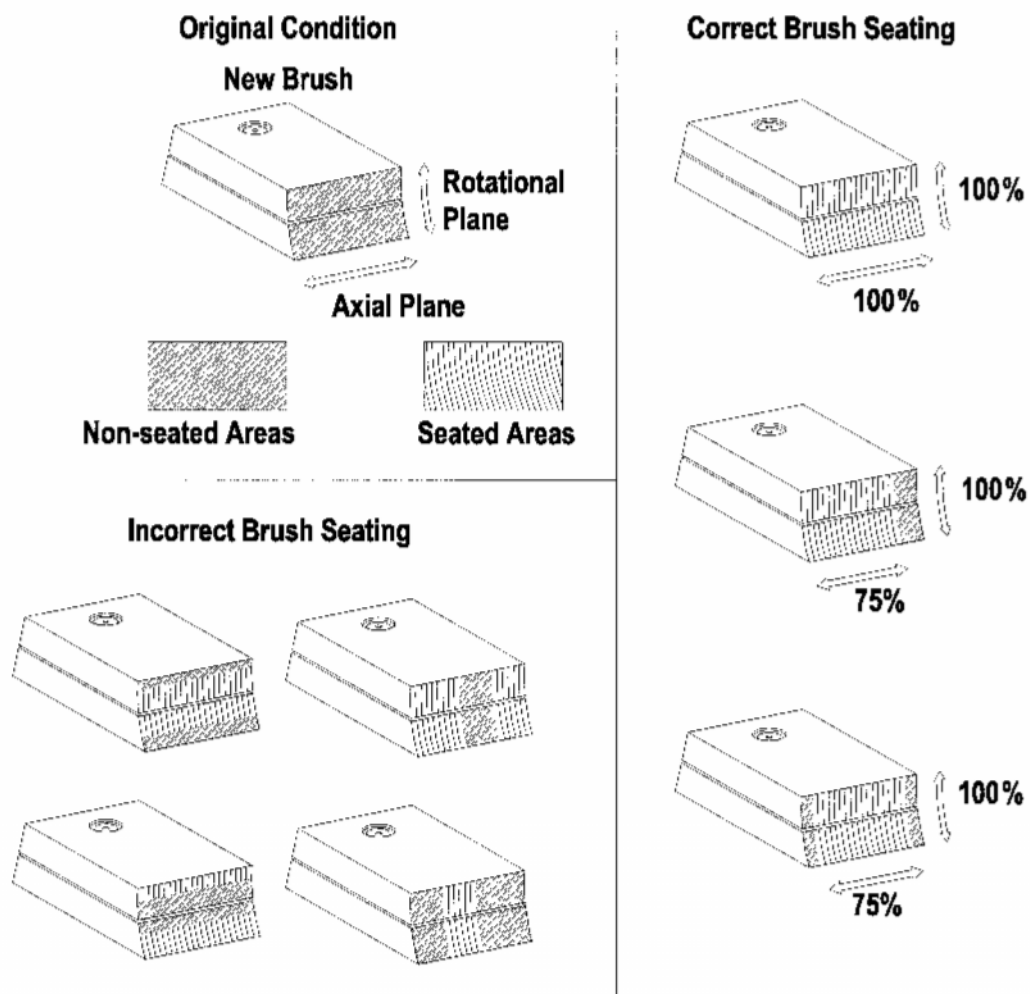

Figure 14 - Proper and Improperly Seated Brushes
Operate the generator (or starter-generator as a generator) at 8,000 to 10,000 RPM, load per Table 5 and 28 VDC, until the brushes are seated a minimum of 75% in the axial plane and 100% in the rotational plane. (Ref Figure 14)
* If brush seating does not meet requirements of Figure 14, repeat last load step until requirements are met.
NOTE: A properly seated and run-in portion of a brush appears as a smooth, semi-gloss surface. (Ref Figure 14)
Operate the generator (or starter-generator as a generator) at 8,000 to 10,000 RPM, load per Table 6 and 28 VDC, until the brushes are seated a minimum of 75% in the axial plane and 100% in the rotational plane. (Ref Figure 14)
NOTE: A properly seated and run-in portion of a brush appears as a smooth, semi-gloss surface. (Ref Figure .14)